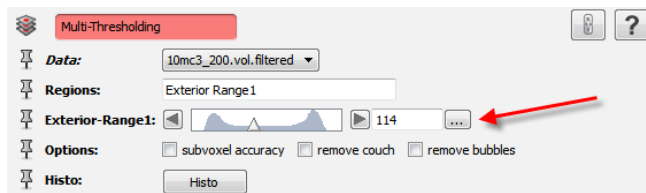

Figure 14.11: Modified parameter of the *Segment > Multi-Thresholding* module is highlighted by a red arrow.
- The default option should be the same as in Figure 14.11. The most important parameter to verify is the value of the *Exterior-Range1* slider, which must be set to 114.